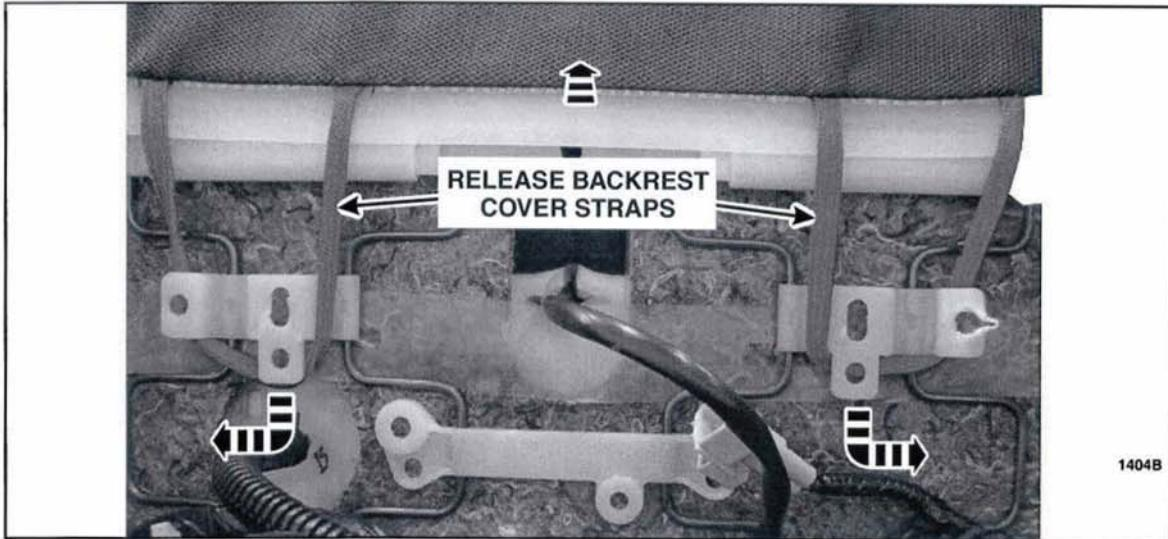

FIGURE 2
4. Release the backrest cover straps from the seat bottom. See Figure 2.